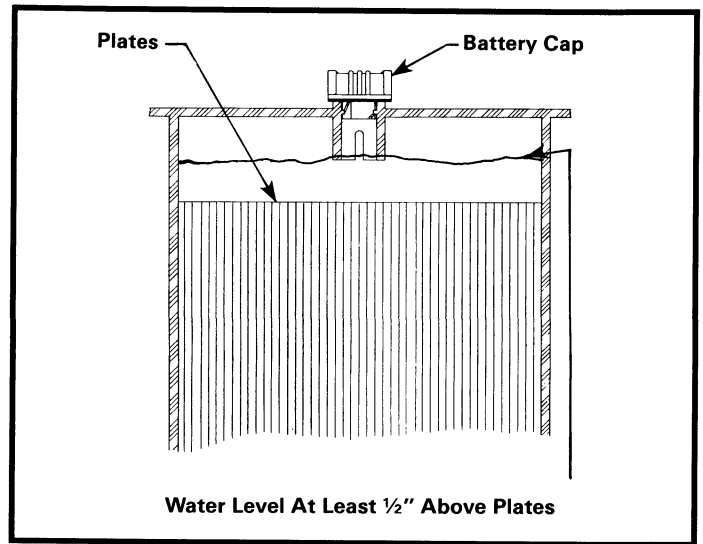

Figure 16
2. The water level in the batteries should be checked weekly (See Figure 16 for proper level). Add water only after charging unless the water level is below the top of the plates. In this case, add just enough water to cover the plates, charge and then check the level again. For maximum battery life, add only distilled water to the batteries.